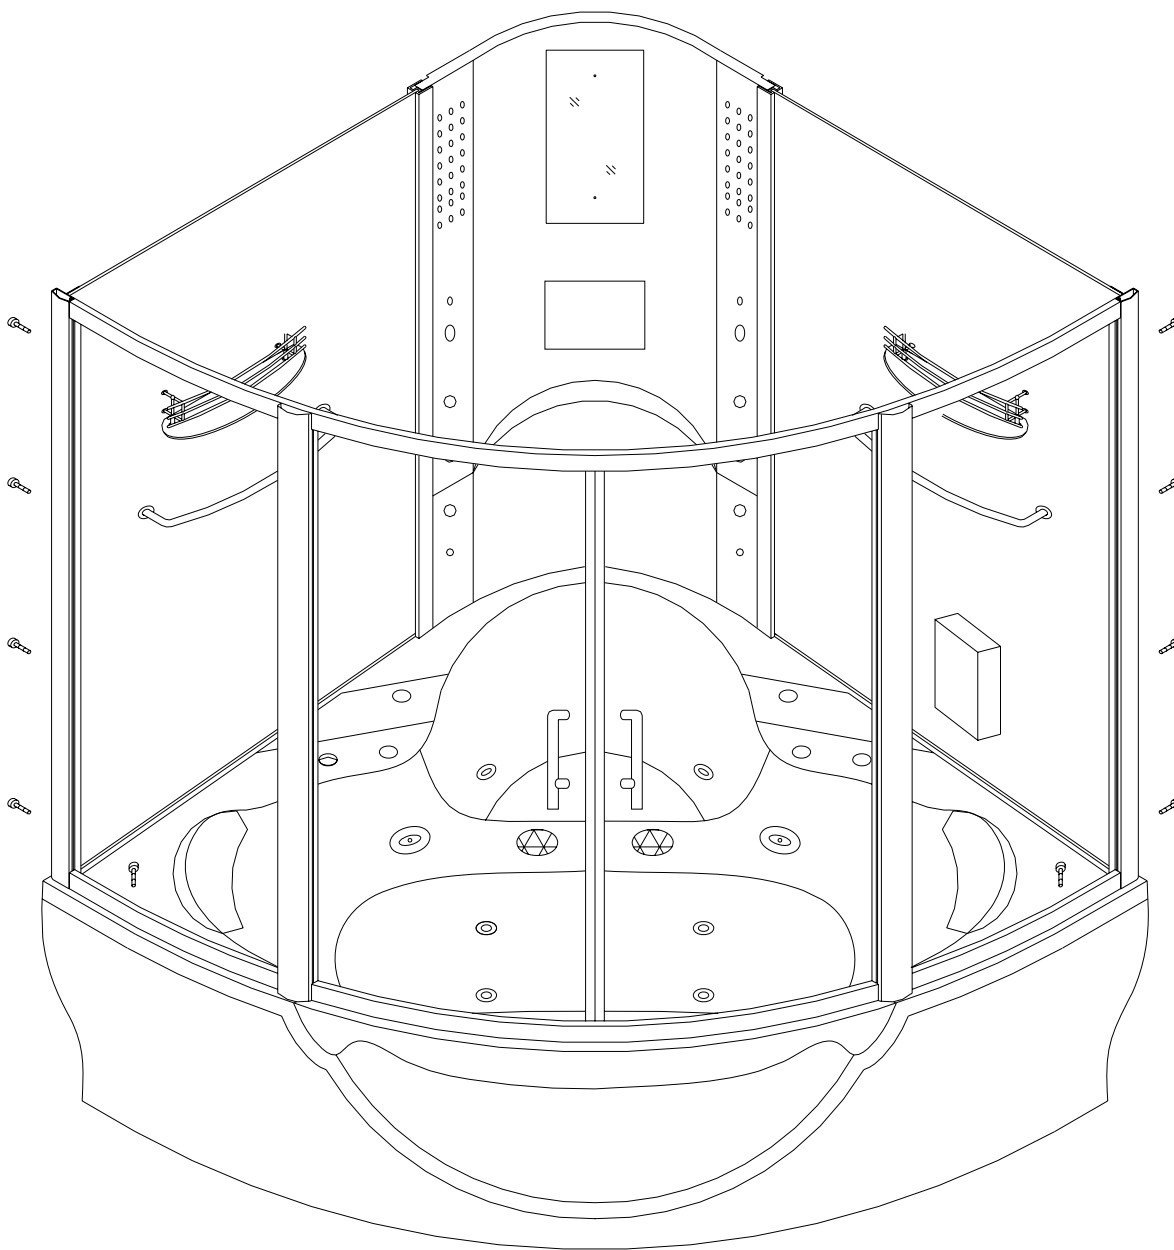

Fig.6
5. Install the door assembly and the glass—Put the door assembly onto the tub, install the rack , towel rack , foot massage machine  and other parts onto the left and right side glass. Put the side glass into the aluminium trough of the two sides of the mid-wallboard. The other side, use the 4-M6 bolt to connect the holes of the side aluminium, put the  into the two ends of the side glass. (As the Fig.6)